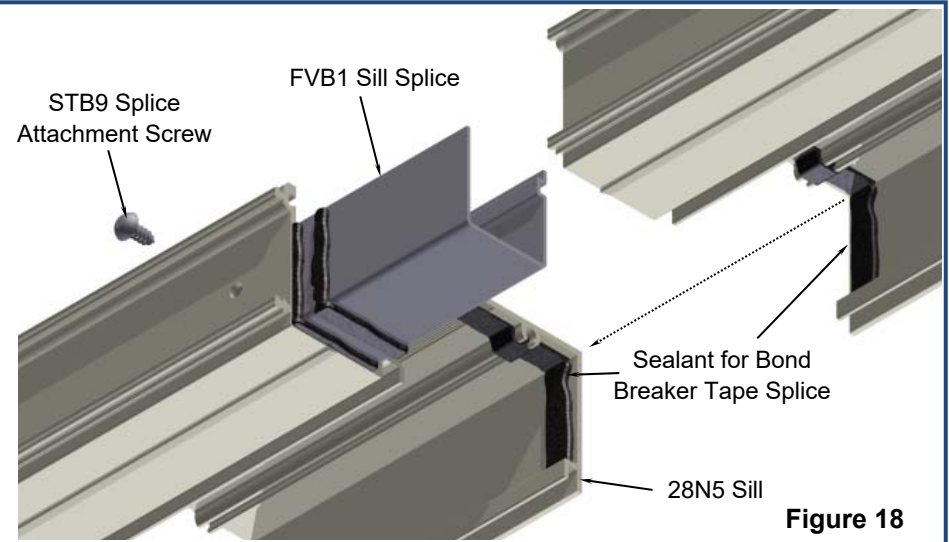

Figure 18
- Prior to setting the sill, place silicone type of sealant on both sides of the splice joint. Attach one side of the splice to the frame using a STB9 screw. (see figure 18)
- Using WM01 bond breaker tape, create a splice from interior glazing leg to the interior leg. Ensure that the bond breaker tape is centered over the 1/4" gap and then set the tape into the sealant. Tool the sealant over the bond breaker tape to create a watertight seal. See figure 18.